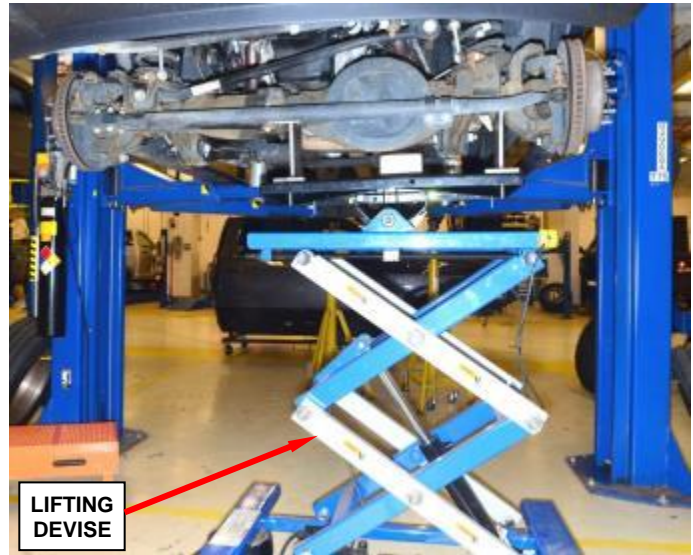

Figure 8 – Secure Axle to Lifting Device
14. Secure the front axle to a lifting device (Figure 8).